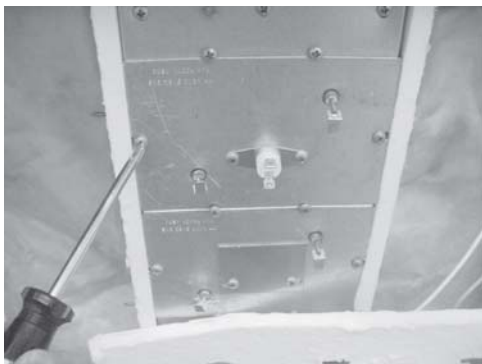

Figure 2-14
6. Using a Phillips head screwdriver, remove the 6 screws securing the heater and remove from the unit (Figure 2-14).